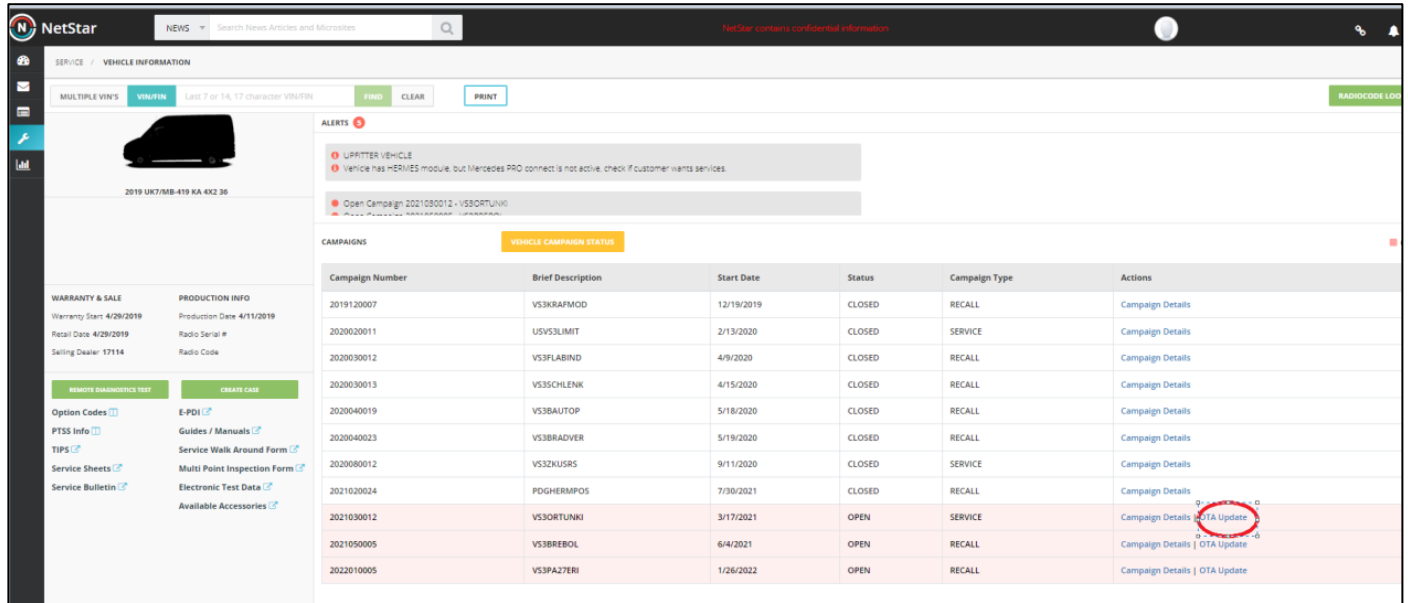

Figure 4 – In the “Actions” column, “OTA Update” is available, listed next to Campaign Number 2023110006
2. Search for the vehicle identification number (VIN) (Figure 4).
3. Click on the “OTA update” link (Figure 4).